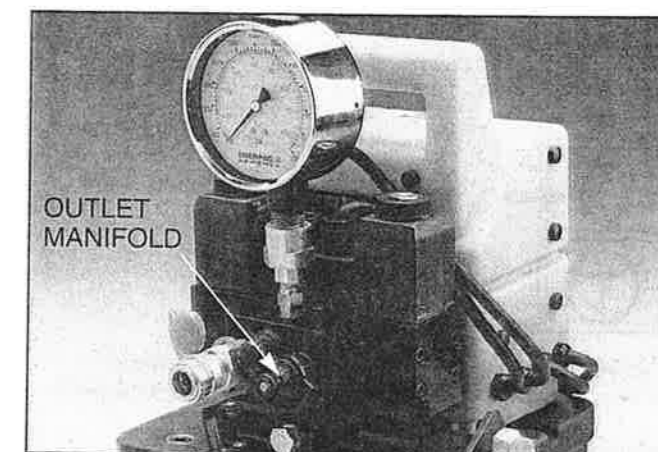

Figure 3 - Pump Outlet Manifold
1. Couple hoses to pump outlet manifold shown in Figure 3. BE SURE to use hose marked "ENERPAC 800 SERIES - 800 BAR/11,600 PSI MAX".